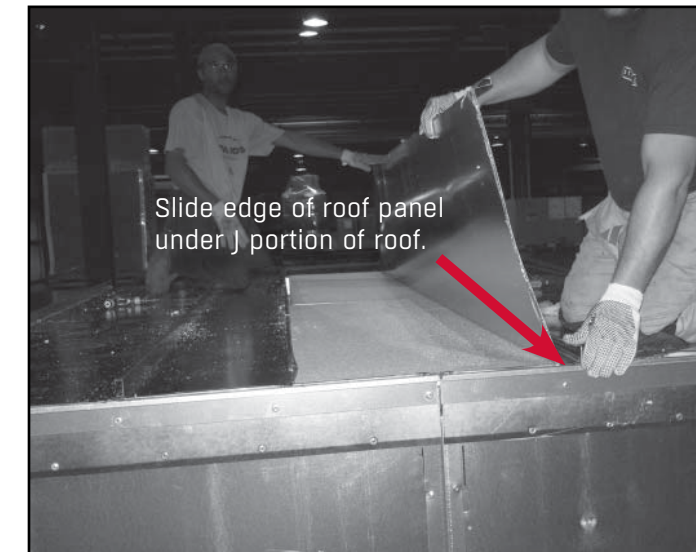

FIGURE 11.
- 18)** Insert one edge of roof panel as shown and rotate into place (See **FIGURE 11**).